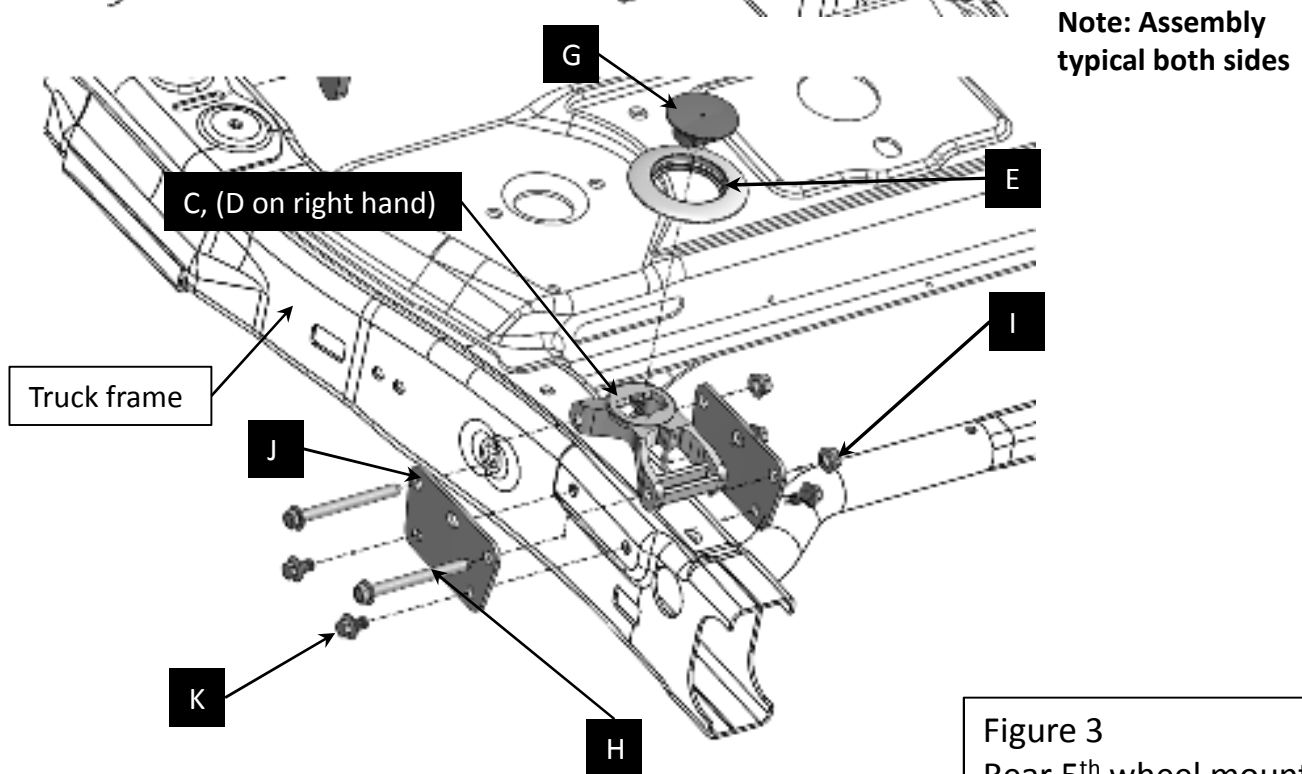

Figure 3
- 6) **Rear Mounts** - Fasten casting (both sides) through the frame bracket carrier using (2) M12-1.5x110mm bolts, (2) M12-1.5 nuts, (2) 5th wheel mtg plates, (J) & (4) M12-1.5x20mm bolts(parts 'D' & 'E'). (Fig. 3)